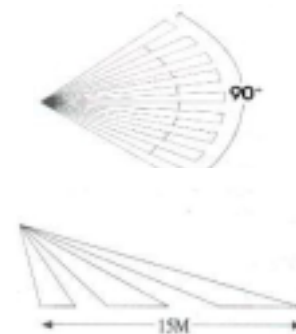

Figure 1
- The cable is normally pre-connected. If not, then connect it to the Camera as per the wiring diagram. (see figure 1). An ideal mounting height is between 2.2 – 2.5 metres.